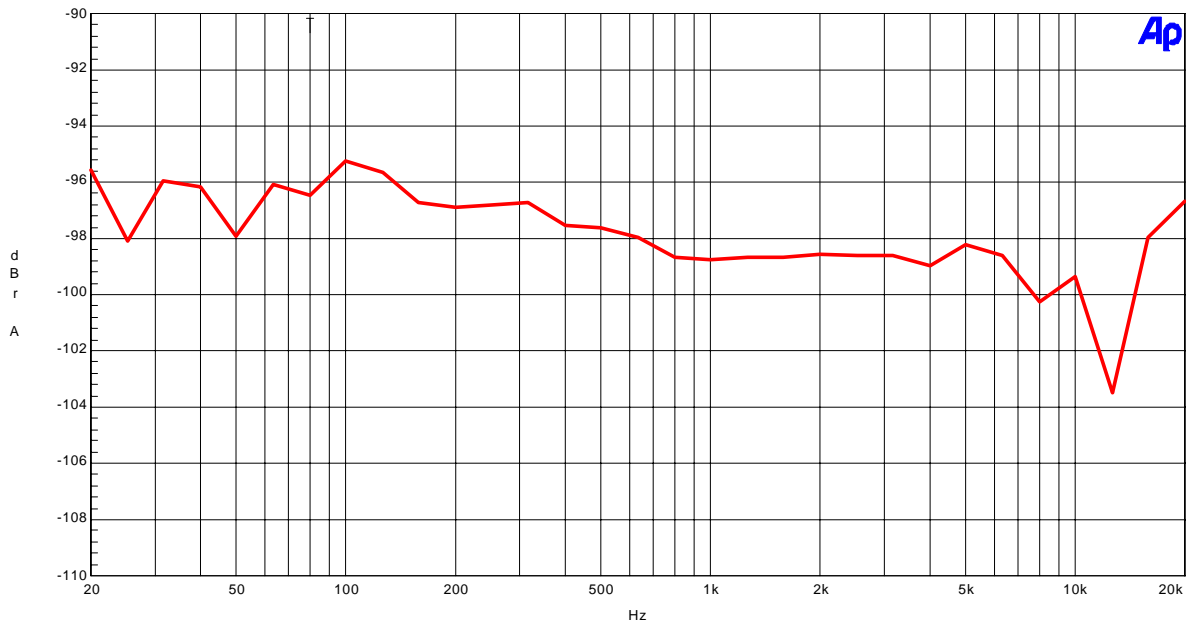

Figure 7. THD+N vs fin (fs=44.1kHz; 0dBFS input)
- Figure 7. THD+N vs fin (0dBFS input)